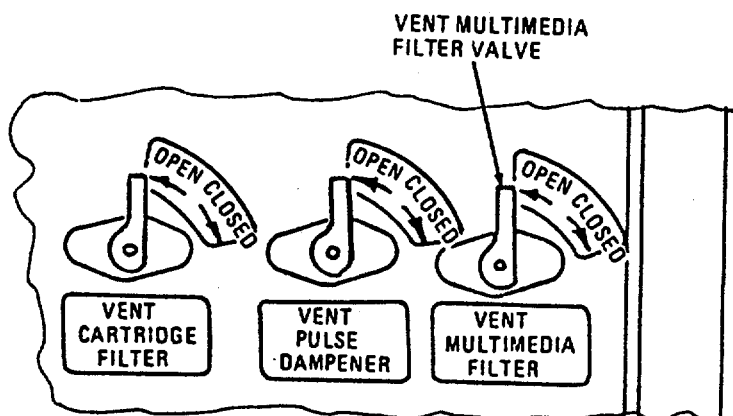

FIGURE 2-54. MULTIMEDIA FILTER VENT VALVE
(1) Set VENT MULTIMEDIA FILTER valve, VENT PULSE DAMPENER valve, and VENT CARTRIDGE FILTER valves to CLOSE (figure 2-54).